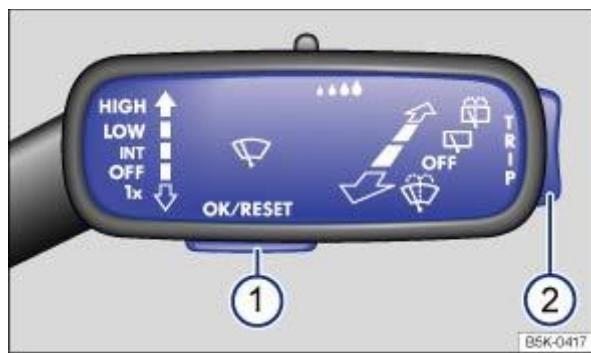

Fig. 20 On the right of the steering column: buttons on the wiper lever (illustration).
If any priority 1 ⇒ Instrument cluster warning messages are displayed, you will be unable to open any menus. Some warnings can be confirmed and hidden using the button ⇒ Fig. 20 ①.
If a message or vehicle pictogram is displayed, press the ⇒ Fig. 20 ① button, several times if necessary.
To display the menus ⇒ Instrument cluster menus or to return from a menu or an information display to the menu selection, hold down the rocker switch ⇒ Fig. 20 ②.
To open the menu or information display, press button ⇒ Fig. 20 ① or wait until the menu or information display opens automatically after a few seconds.
In the menu displayed, press the rocker switch ⇒ Fig. 20 ② on the wiper lever upwards or downwards until the desired menu option is marked. A frame appears around the selected option.
Press the ⇒ Fig. 20 ① button to make the required changes. A tick indicates that the particular system or function is active.